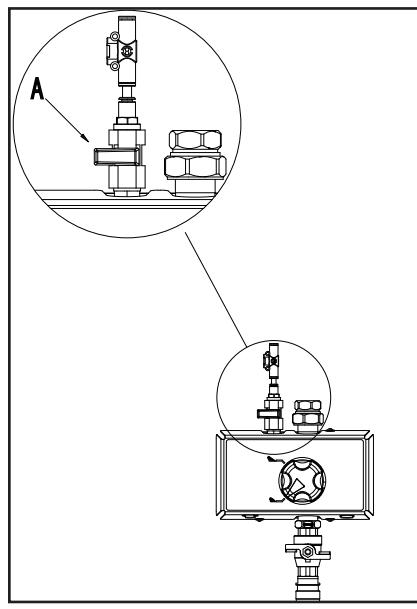

Fig. 7
1. Check that water- and air supplies for the system are open. (see A, Fig. 7, air). Activate central chemical supply if present.
2. Close the air supply(A, Fig. 7)